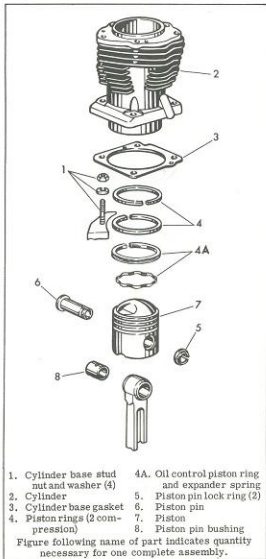

Figure 3C-1. Cylinder - Exploded View
## DISASSEMBLING CYLINDER AND PISTON (Fig. 3C-1)
Spring piston rings (4) outward until they clear ring grooves in piston and lift off. Use a commercial ring expander if necessary. Pry right piston pin lock ring (5) off piston pin using the Piston Lock Ring Tool, Part No. 96780-32A and screwdriver as shown in Fig. 3C-2. Right end of piston pin has slots for this purpose. Tap out piston pin (6) and lift off piston (7).